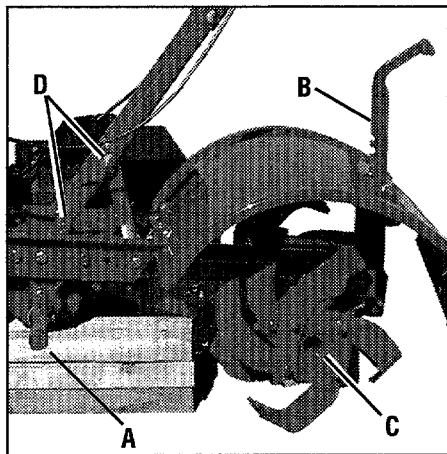

Figure 5-1
Proper lubrication of the tiller is an essential part of your maintenance program. After every 10 operating hours, oil or grease the lubrication points shown in Figure 5-1 and described below.
- Remove wheels, clean wheel shaft (A, Fig. 5-1) and apply thin coating of grease to shaft.
- Grease back, front and sides of depth regulator lever (B, Fig. 5-1).
- Remove tines, clean tine shafts (C, Fig. 5-1) and inspect for rust, rough spots or burrs (especially around holes). File or sand smooth and coat ends of shaft with grease.
- Oil the threads on the handlebar height adjustment screws and the handlebar attaching screws (D, Fig. 5-1).